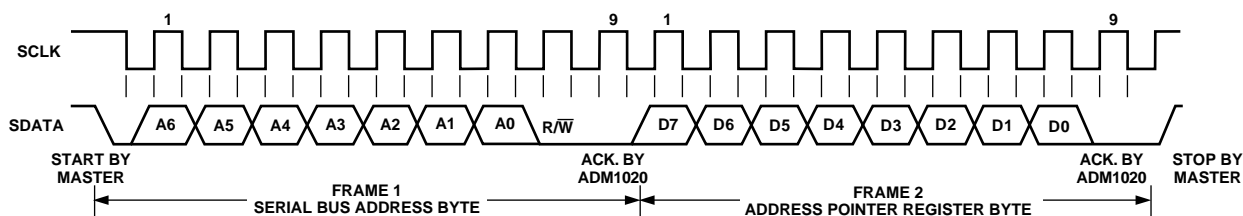

Figure 12b. Writing to the Address Pointer Register Only
register read address is sent, as data is not to be written to the register. This is shown in Figure 12b.
2. If the Address Pointer Register is known to be already at the desired address, data can be read from the corresponding data register without first writing to the Address Pointer Register, so Figure 12b can be omitted.